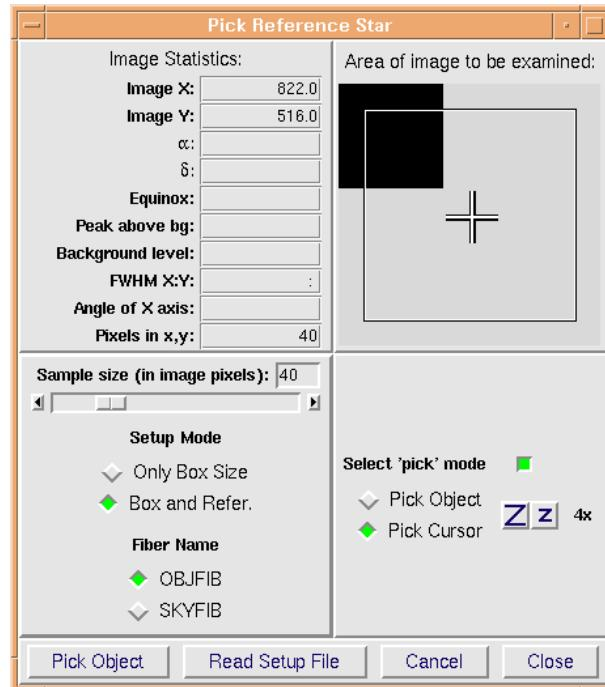

Figure 6.4: Window to set **FEROS** fibre reference position **Pick Reference Star**. Select checkbox **Pick Cursor**.
- a. Open or activate window **Pick Reference Star** (Fig. 6.4, p. 61).